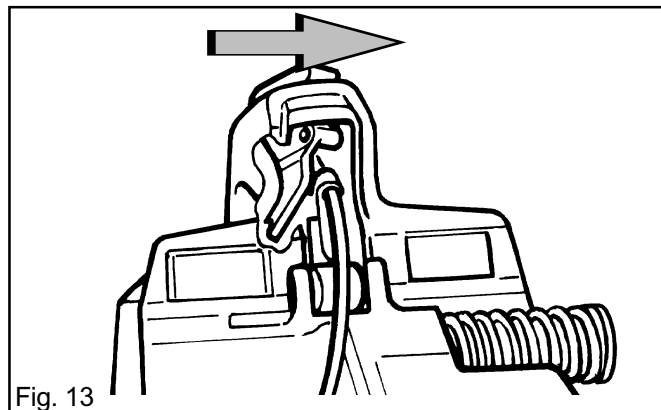

Fig. 13
3. Twist the throttle lock as shown in fig. 13 and lift it out of the hand grip together with the spring.
5. Twist the throttle lock so that the catch (E) can pass down beside the throttle lever inside the hand grip, as shown in fig. 13.
6. Press in the throttle lock pivot (A) with the help of a driver